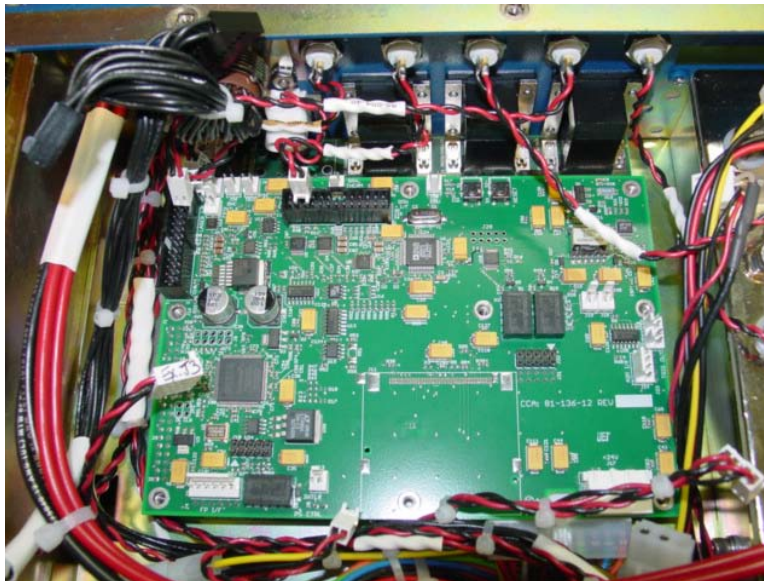

Figure 6 Newly Installed Expansion Module CCA
7. Carefully press the expansion module CCA down until connectors are fully seated and the circuit card rests on the stand-offs per Figure 6, below.